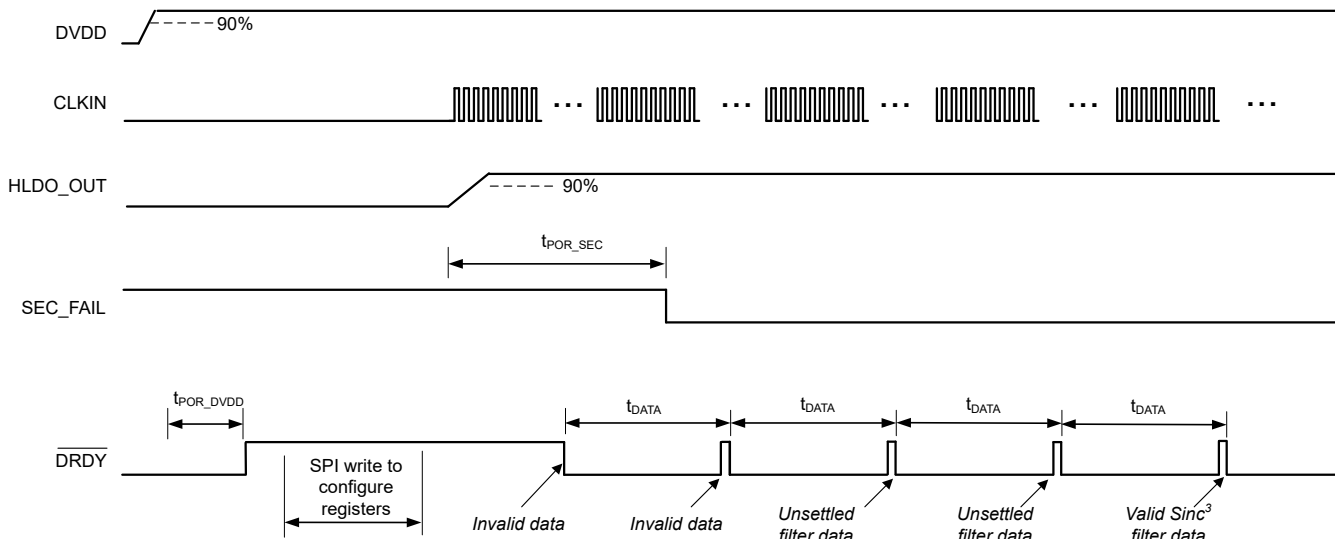
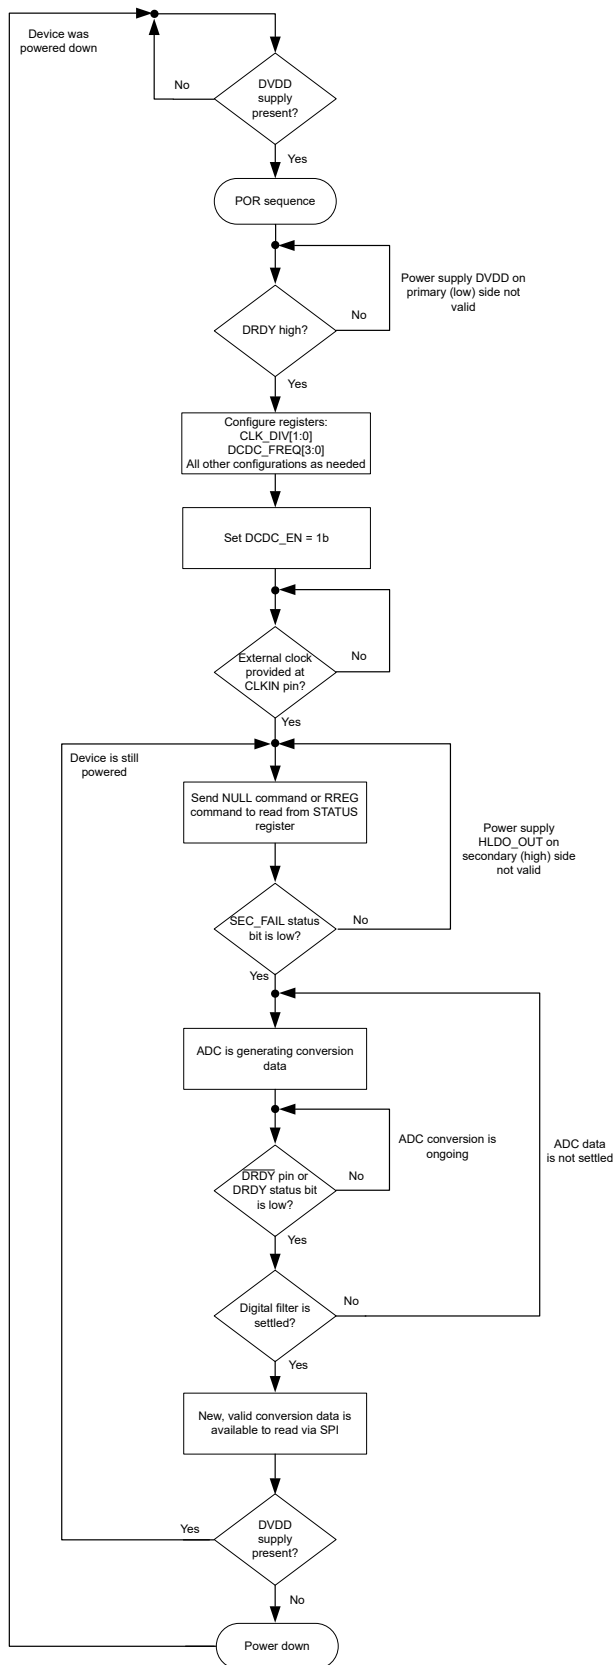

Figure 8-16. Start-Up Behavior at Power-Up and Settling Times, OSR = 1024
Figure 8-17. Flow Diagram for Start-Up Procedure at Power-Up
A recommended procedure for powering up the AMC130M02 is described in this section. Figure 8-16 depicts a timing diagram for the device behavior when this recommended sequence is used. Figure 8-17 provides a flow diagram that displays the recommended sequence in a graphical form.
- The high-to-low transition of $\overline{\text{DRDY}}$ indicates that new conversion data are available. As given in Figure 8-16, ADC data are only valid if the SEC_FAIL reads 0b during the conversion period. The first two conversion results shown in Figure 8-16, represent invalid data.
- When the ADC generates valid data, the digital filter must settle, as described in the *SINC³ and SINC³ + SINC¹ Filter* section. Two subsequent conversion results illustrated in Figure 8-16 are unsettled (assuming OSR equals 1024), and the last conversion result shown provides valid and settled data.
In Figure 8-16, $t_{\text{POR_SEC}}$ is the time from enabling the DC/DC converter to the first falling edge of the SEC_FAIL bit, which indicates that the secondary power supply at the HLDO_OUT pin is stable. $t_{\text{POR_DVDD}}$ is the time from DVDD supply at 90% to $\overline{\text{DRDY}}$ first rising edge.